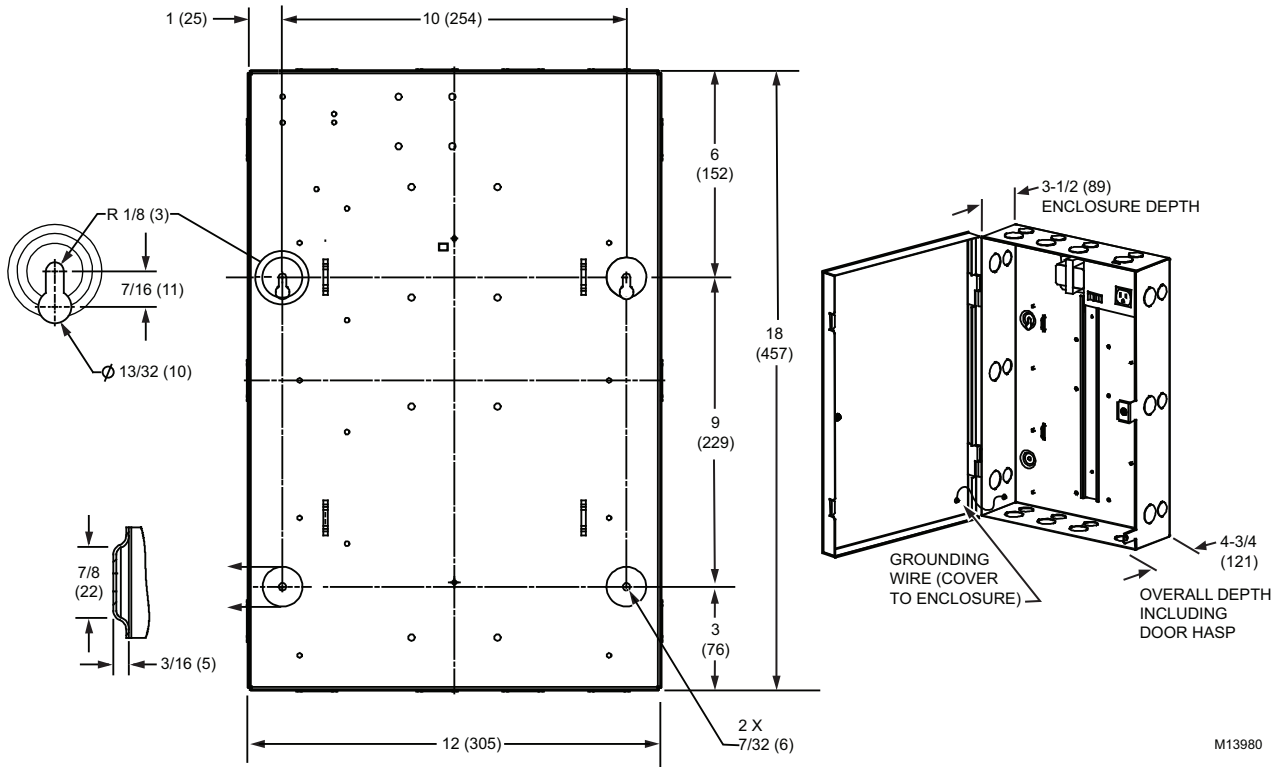
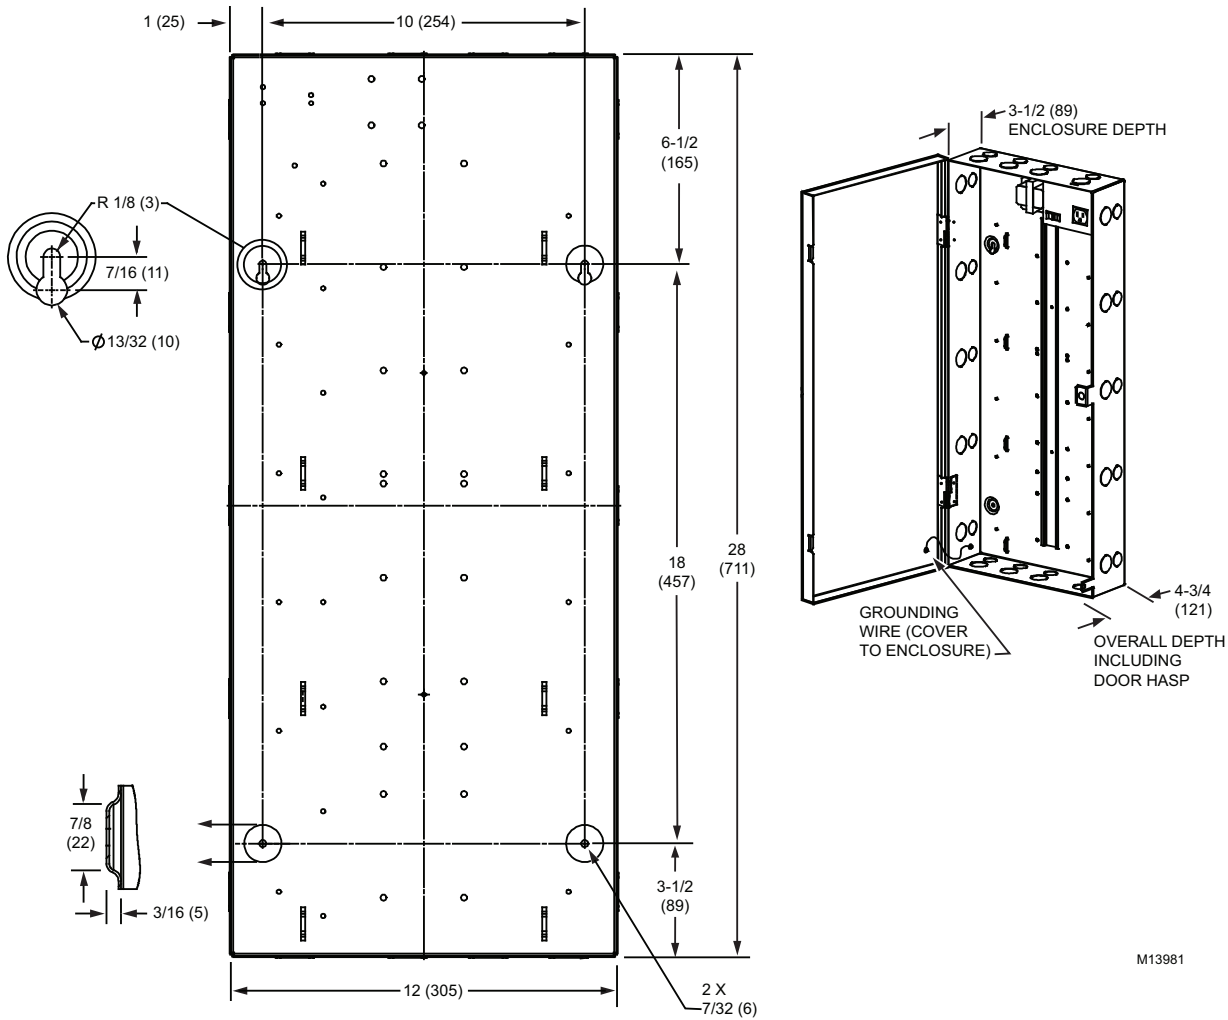

Fig. 2. ENC-H-001 enclosure wall mounting details.
Fig. 3. ENC-H-002 enclosure wall mounting details.
3. Near the bottom of the enclosure, slide the green grounding wire onto the door's screw post and fasten with a #6-32 keps nut. See Fig. 2 or Fig. 3.
NOTE: See Fig. 2 (ENC-H-001) or Fig. 3 (ENC-H-002) for locations and dimensions of enclosure mounting holes.
- See Fig. 2 for ENC-H-001 enclosure wall mounting dimensions.
- See Fig. 3 for ENC-H-002 enclosure wall mounting dimensions.